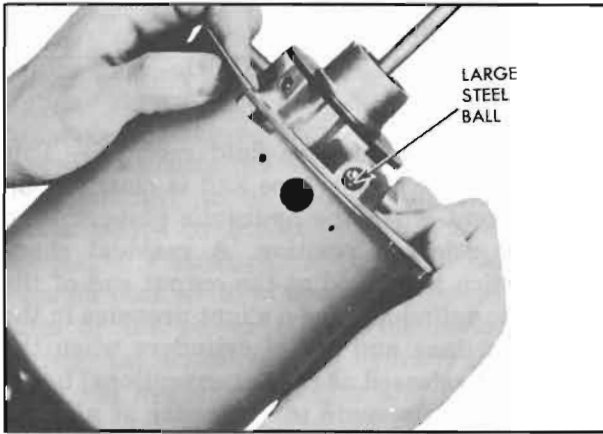

Figure 9-28—Positioning Piston in Housing
22. Wipe a light coat of Dynaflow oil on O.D. of leather cup. Position power piston assembly on spring with large steel ball aligned with vacuum tube hole in housing. See figure 9-28. Push piston assembly into housing past vacuum tube hole. Place gasket against vacuum tube flange, then insert vacuum tube through hole and slide into vacuum hose. Hold piston assembly in until vacuum tube attaching screws are tightened, then release piston slowly against tube.